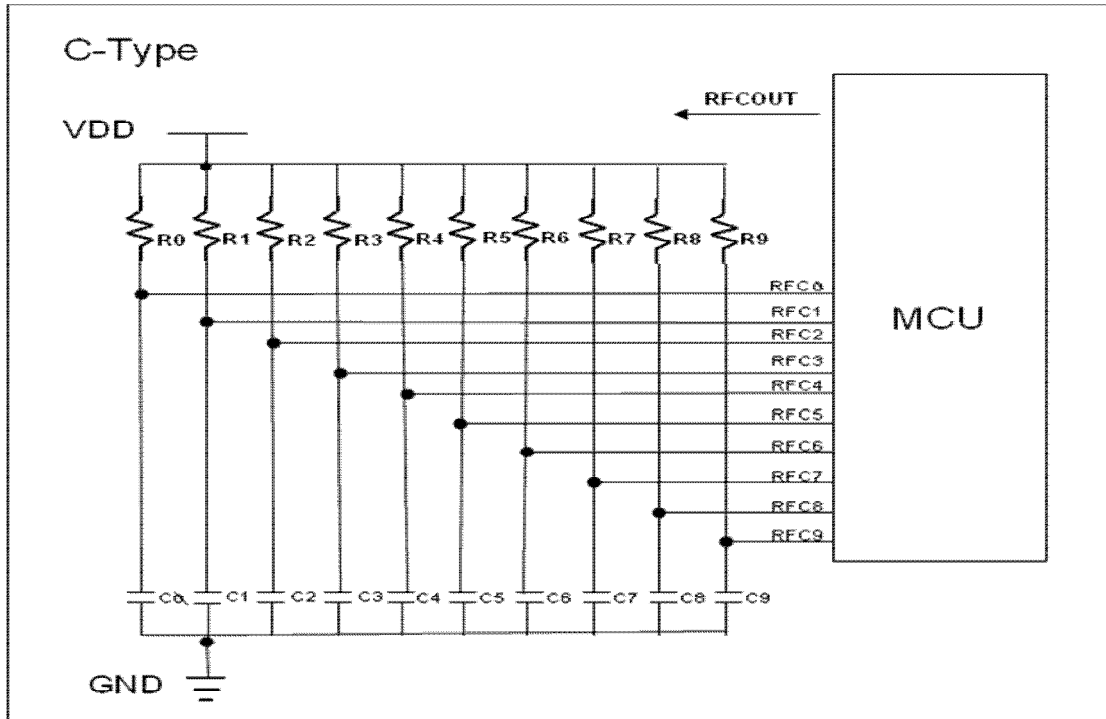
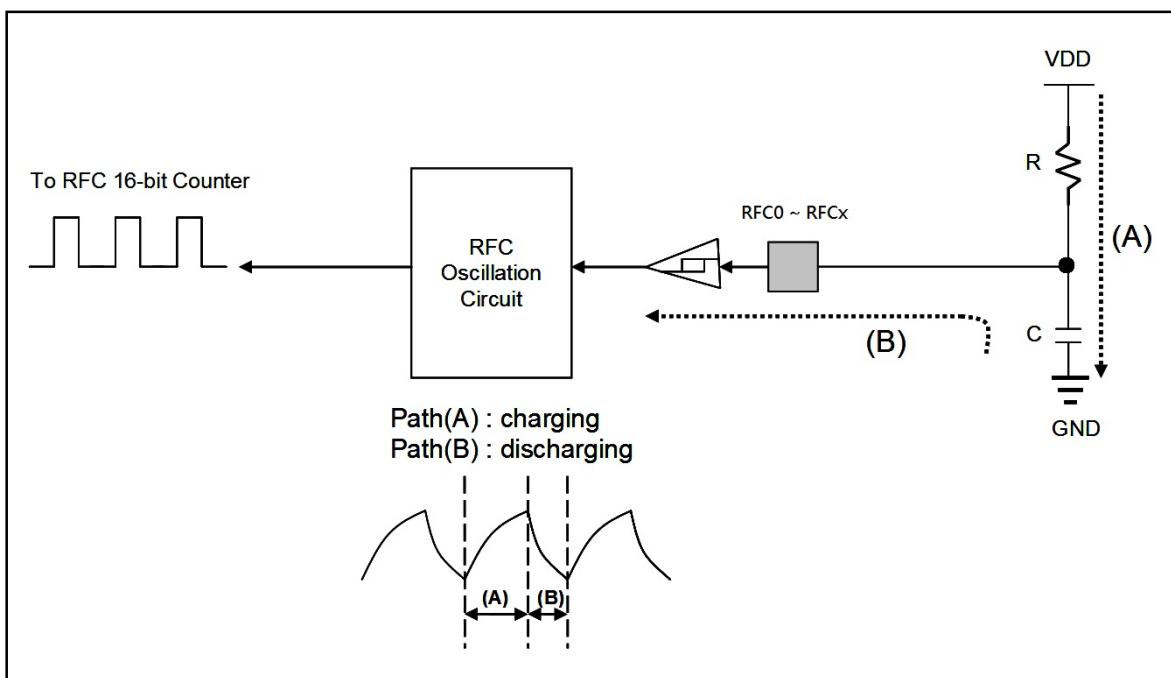

Fig. 6: Application circuit of C-Type
Fig. 7: Charging and discharging mechanism of C-Type
The application circuit of C-Type RFC is shown as Fig. 6 and its charging and discharging mechanism as Fig. 7. Each channel has its own resistance and capacitance, charging/discharging can be operated independently. Charging path (A) comes from supply voltage VDD and discharging path (B) to the RFC channel.